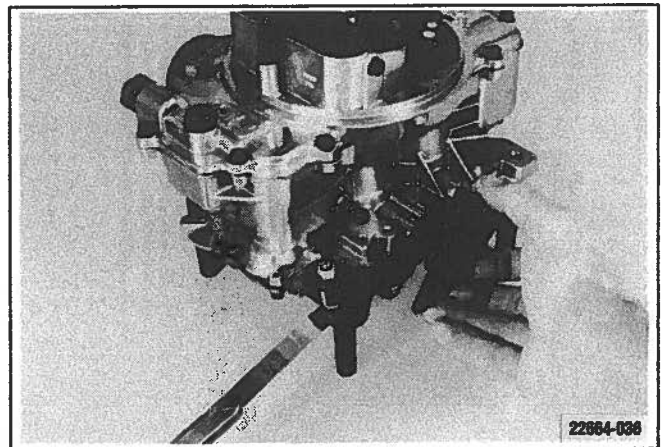

Figure 7-123. Pump-Adjustment Procedure
3. With a feeler gauge, check for clearance between adjustment screw and accelerator-pump lever. Adjust screw and nut to specifications (0.010 to 0.015 inch) (Figure 7-123).